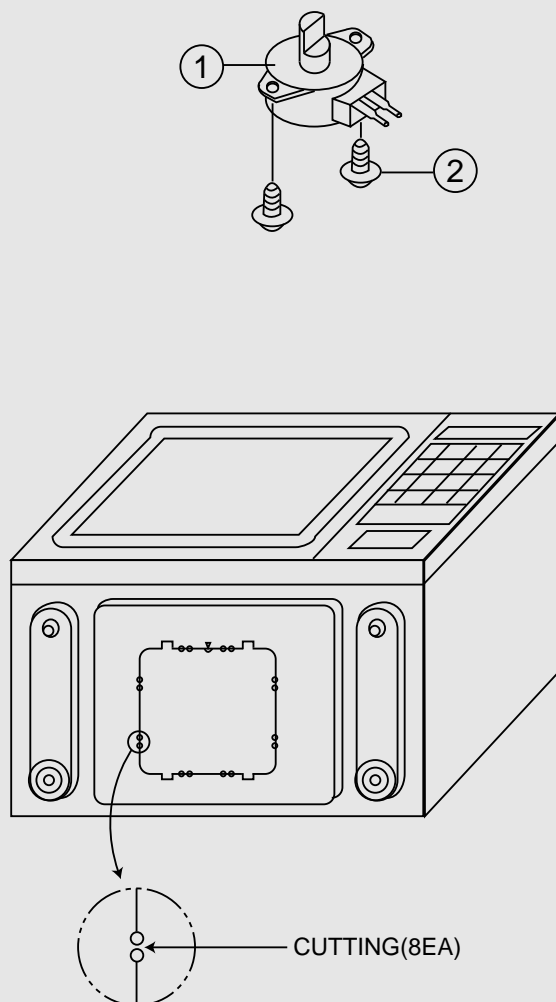

Fig. 9
9. To remove tray motor and under Heater. (Refer to Fig. 9)
- 1) Cut the tray motor cover parts from the base plate (Refer to Fig. 9).
- 2) Remove two screws ② which secure the tray motor ①.